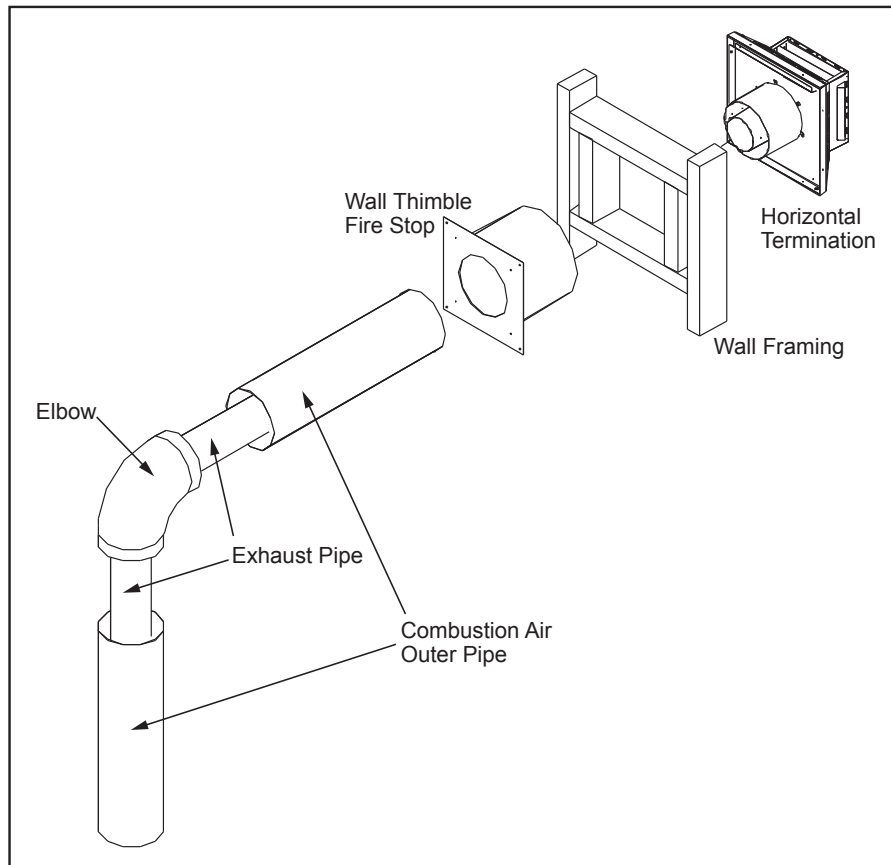

Figure 28. Horizontal Vent Termination
Step 3. With the pipe in the correct position and attached to the fireplace, mark the wall for a 10 inches (25.4 cm) x 10 inches (25.4 cm) square hole (see Figure 28). The center of the hole should match the center line of the horizontal pipe. Cut and frame the hole in the exterior wall where the vent will be terminated. If the wall being penetrated is made of a non-combustible material (i.e. masonry or concrete) a 7 inches (17.8 cm) hole is acceptable.